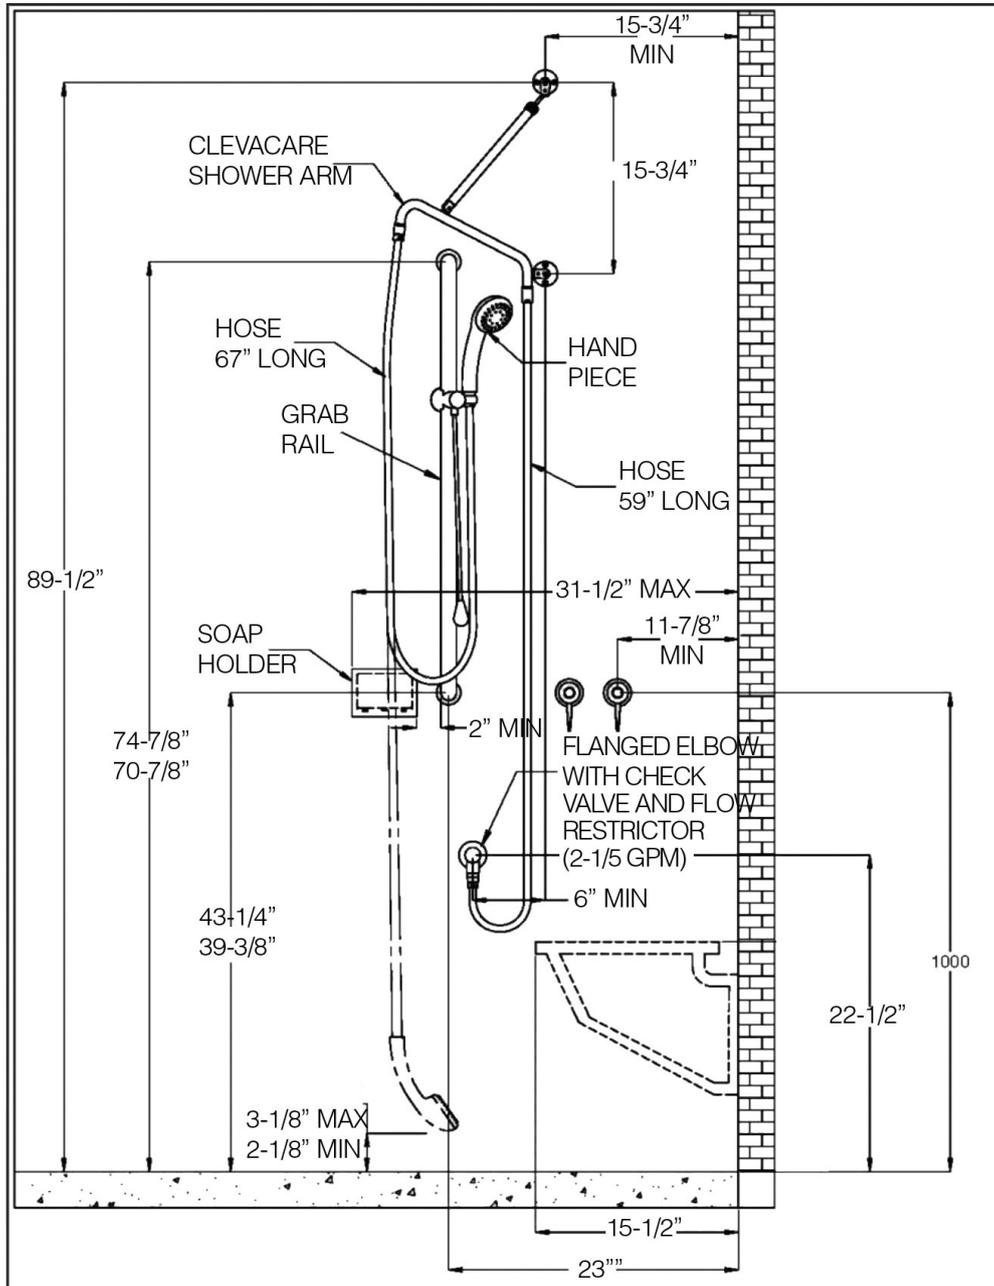

FIG 4. CLEVAKIT INSTALLATION
- ii. Fig 4 shows a ClevaCare typical installation